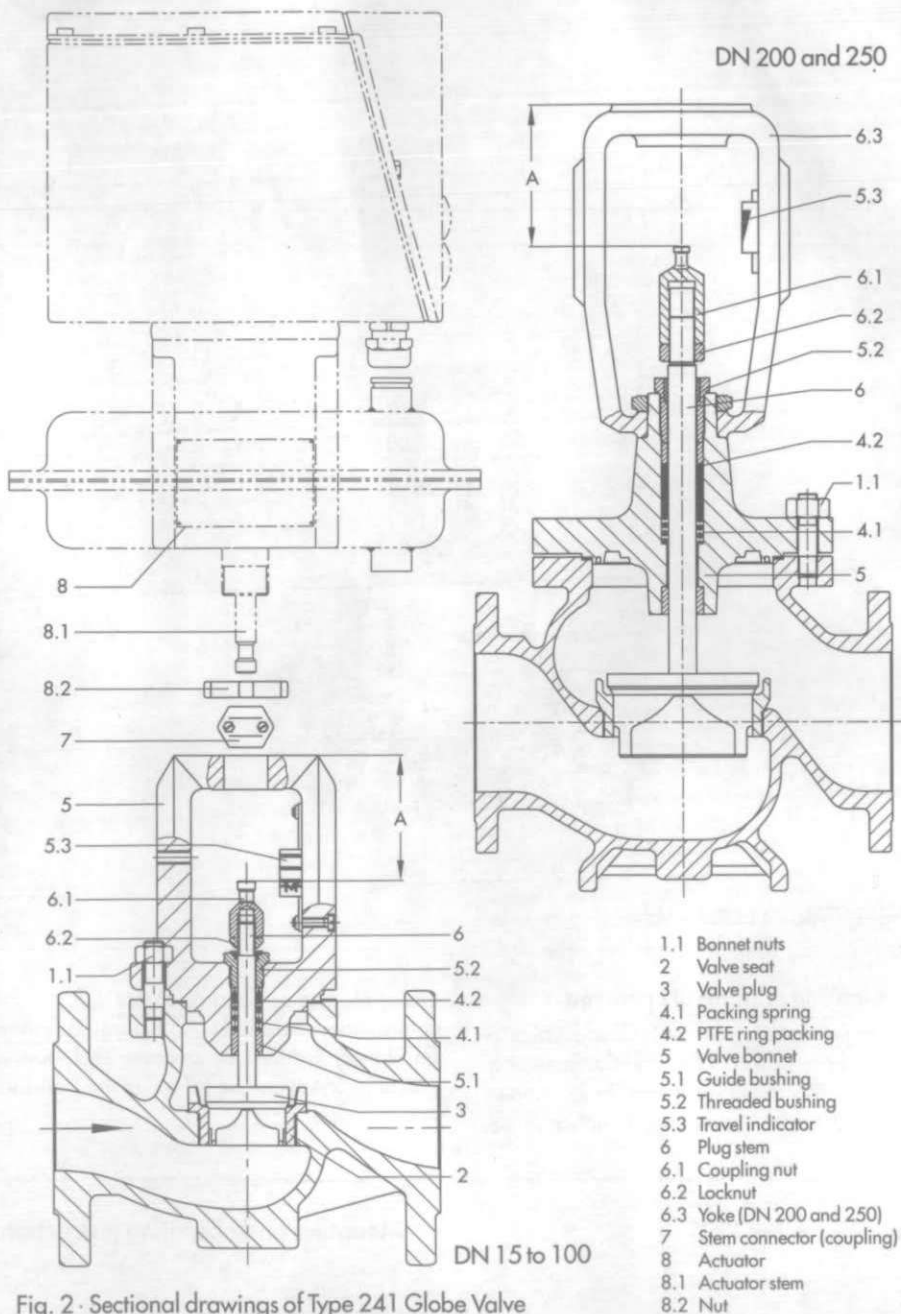

Fig. 2 · Sectional drawings of Type 241 Globe Valve
When the valve and actuator are delivered as separate subassemblies, dimension A (from the top edge of the coupling nut to the top edge of the valve bonnet) is adjusted according to the table presented in Fig. 2. Always check this dimension when assembling.
Thread in and tighten the threaded bushing (5.2). Screw the locknut (6.2) and the coupling nut (6.1) onto plug stem (6), and adjust dimension A according to the table in Fig. 2.
Replace the valve plug as instructed below (Fig. 2):